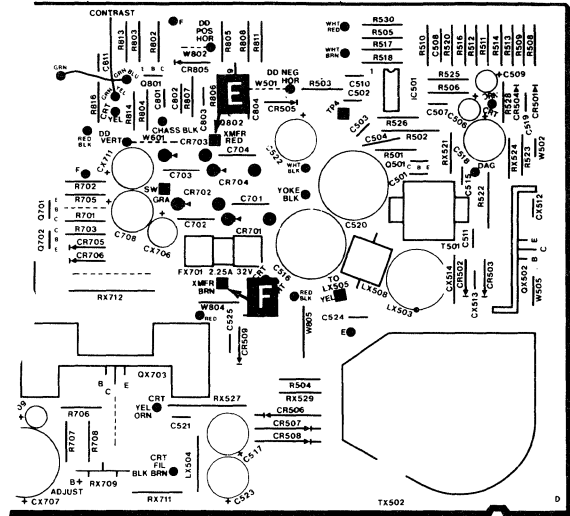

Figure 6.5
- Refer to Figure 6.5 and unsolder transformer leads **E** and **F** from the main board.